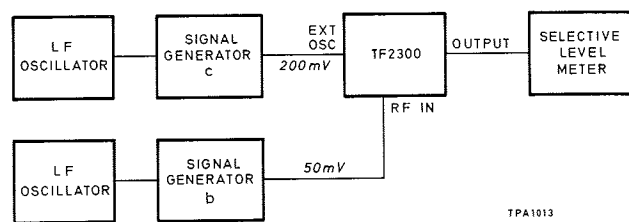

Fig. 4.5 F.M. distortion measurement
- (1) Set up the equipment as shown in Fig. 4.5. Adjust c to give a c.w. output of 200 mV at any convenient frequency F_{c1} . Adjust b to give a c.w. output of 50 mV at frequency ($F_{c1} - 1.5$ Mc/s).
- (2) On the modulation meter set the Function switch to TUNE and the oscillator RANGE switch to EXT. Adjust the frequency of c for maximum reading on the TF 2300 meter and adjust the TF 2300 LEVEL control for a reading within the black arc.